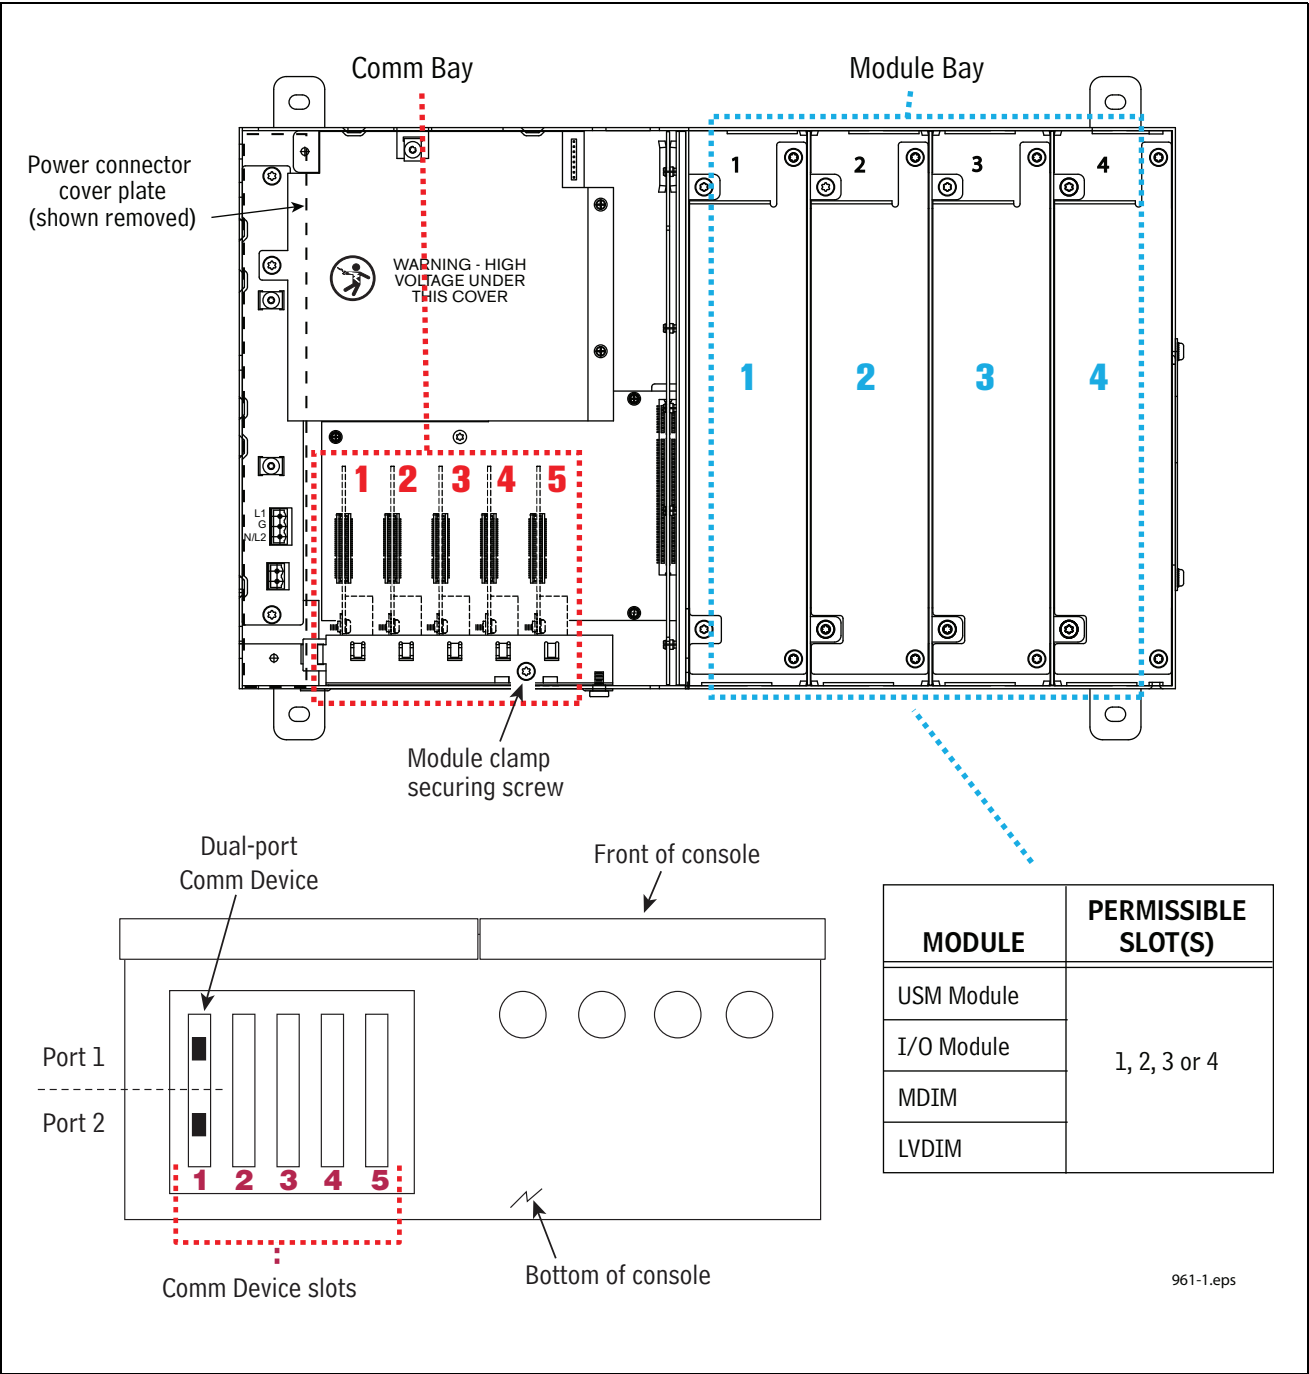

Figure 2. TLS-450 Console - Plug-in Module Bays
The TLS-450 doesn't have pre-assigned slots for the Module bay modules so you can use any of the four slots to accommodate intrinsically safe (USM) or non-intrinsically safe (I/O, MDIM, etc.) modules (see Figure 2). Since the Module Bay modules can be installed in any of these 4 slots, install them where it makes the most sense for conduit connections. Caution! USM wiring inputs are intrinsically safe and conduit containing this wiring must attach to the knockouts above or below the slot in which you install the USM module(s).
1. Figure 2 illustrates acceptable Intrinsically-Safe USM module positions in the Module Bay of the console. After installing the USM module, remove a connector from the USM module, loosen the screws, insert your wires and tighten well. Don't let loose wires on the connector drive you crazy when you begin the startup and probes or sensors are missing – make sure these wires are tight in the connector block. Connect all probe and sensor wires and then reconnect your block to the USM module.
1. Figure 2 illustrates acceptable Non-intrinsically Safe module positions in the Module Bay of the console. After installing the I/O, MDIM or LVDIM module, remove the connector from the module, loosen the screw, insert your wires and tighten well.
1. The Comm Bay is divided into 5 communication slots numbered from 1 to 5 going from left to right (see Figure 2).
3. Using a T-15 Torx driver, loosen the screw securing the comm module clamp until you can remove the clamp (see Figure 2).
1. With the left of the console open, remove the two screws that attach the power connector cover plate (see Figure 2).